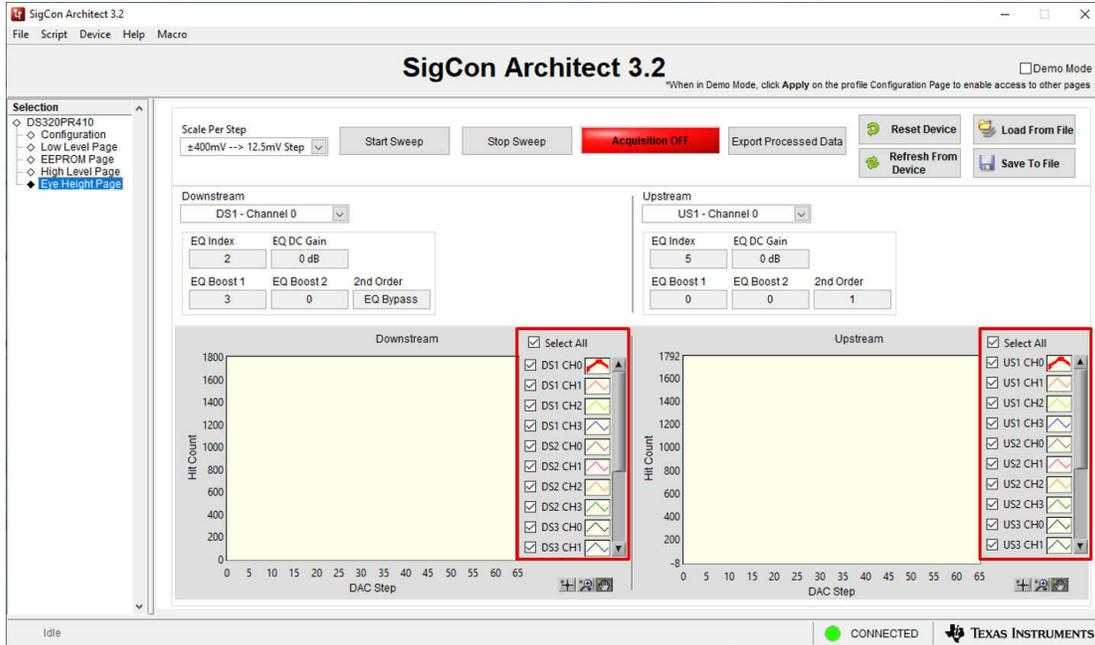

Figure 6-2. Eye Height Page: Select EyeScan Channels
- Select the channels for the desired *EyeScan* capture using the *DSx/USx CHx* check boxes or the *Select All* check boxes for each *Downstream* and *Upstream* device. These options are highlighted in Figure 6-2.